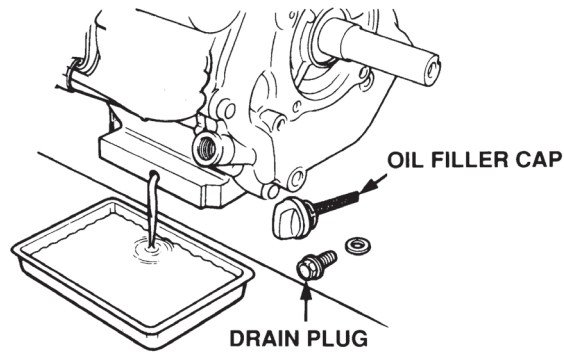

Figure 4-1: Draining Engine Oil
- A. An initial oil change should be performed after the first twenty- (20) hours of use. Thereafter, change oil every 100 hours.
- D. Remove the oil filler dipstick/cap and drain plug. Allow oil to drain from the engine (refer to Figure 4-1).